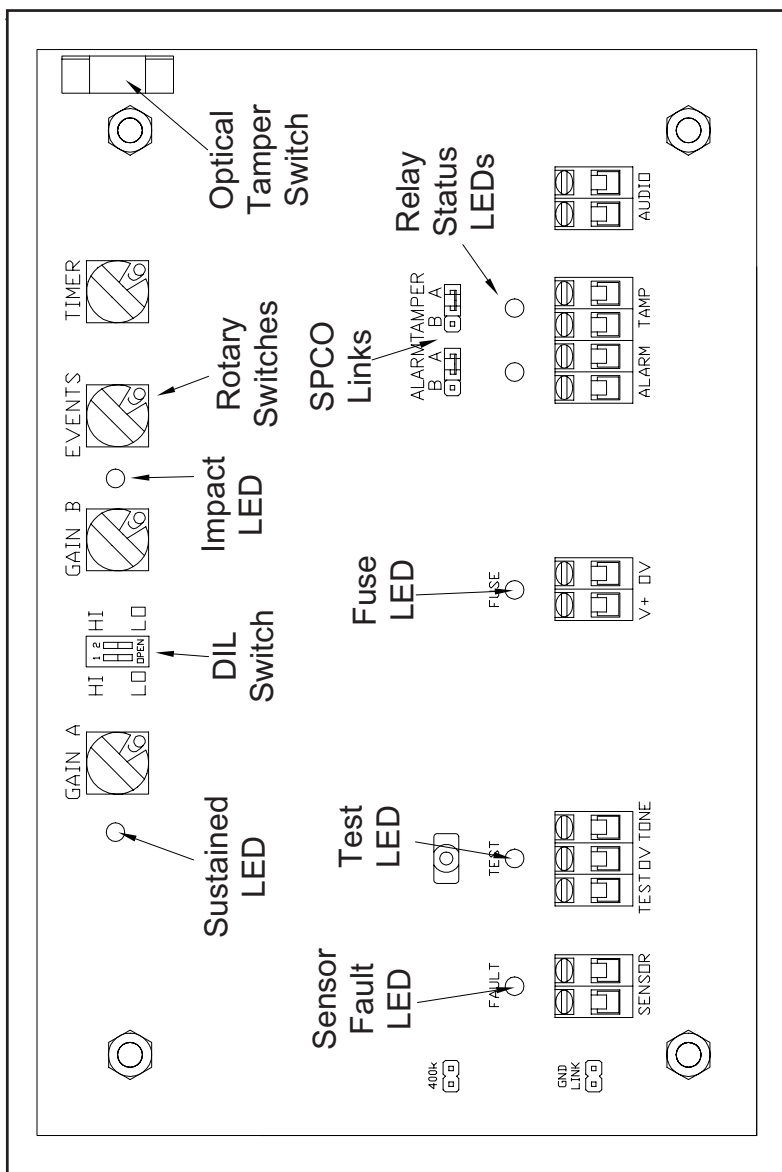

Figure 2
See Figure 2 on page 13 for the location of the above links on the PCB.
Four rotary control switches are placed along the top edge of the PCB and can be adjusted to any value between 0 and 9. See Figure 2.
4. Verify that the alarm and tamper LEDs are both illuminated. Refer to Figure 2 for the position of these LEDs.